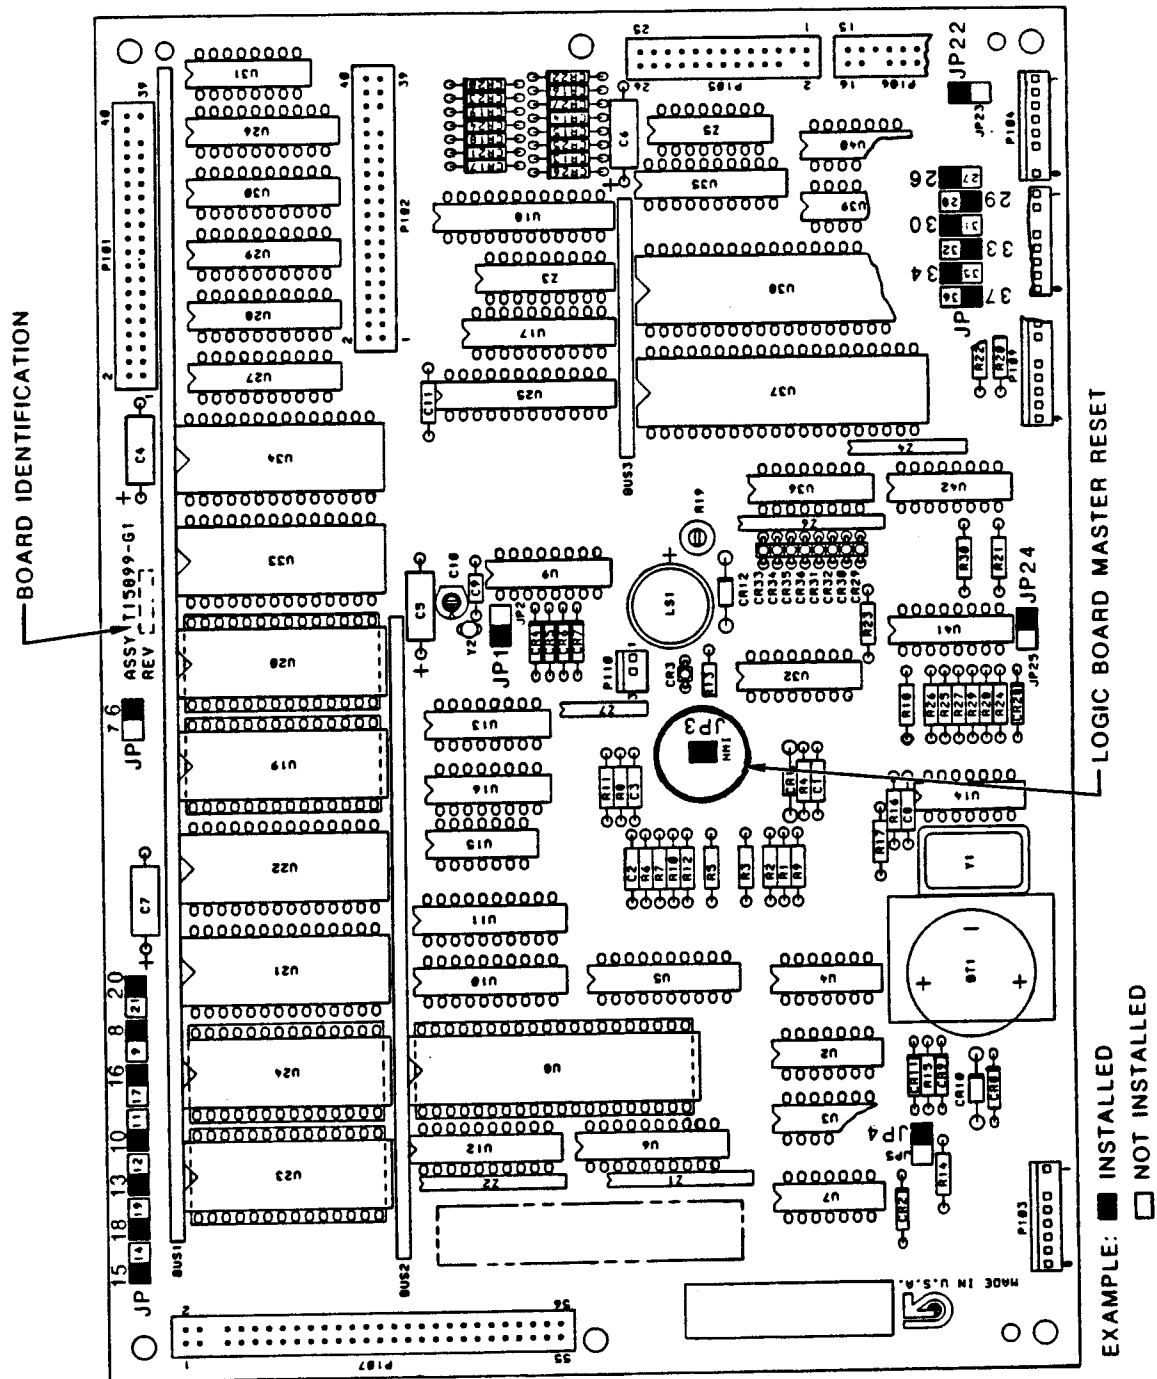

FIGURE 2: JUMPER SETTINGS FOR PWB ASSEMBLY T15899
- If the Processor PWB Assembly is T15899, compare all Jumper Settings with the list on Page 5 and Figure 2 on Page 4. Reset (per instructions below) any jumpers that are not in agreement
- PROCESSOR PWB ASSEMBLY T15899 JUMPER SETTINGS FOR SOFTWARE VERSION 21.0 SEE FIGURE 2, PAGE 4.
- PROCESSOR PWB ASSEMBLY T16249 JUMPER SETTINGS FOR SOFTWARE VERSION 21.0. SEE FIGURE 2, PAGE 4.